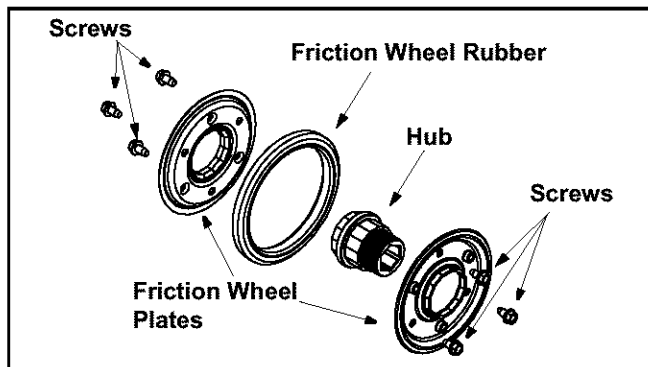

Figure 27
- Remove the six screws from the friction wheel assembly (three from each side). See Figure 27.
- Reassemble new friction wheel rubber to the friction wheel assembly, tightening the six screws in rotation and with equal force. See Figure 27.